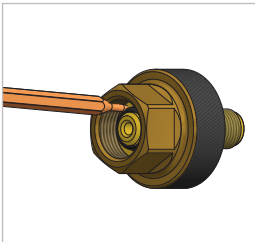

Figure 3
- ▶ Insert a suitable repair tool behind the front seal (Pos. 7) with the WEH® O-ring picker, part No. E98-101969, and remove it from the recess (*Figure 3*).